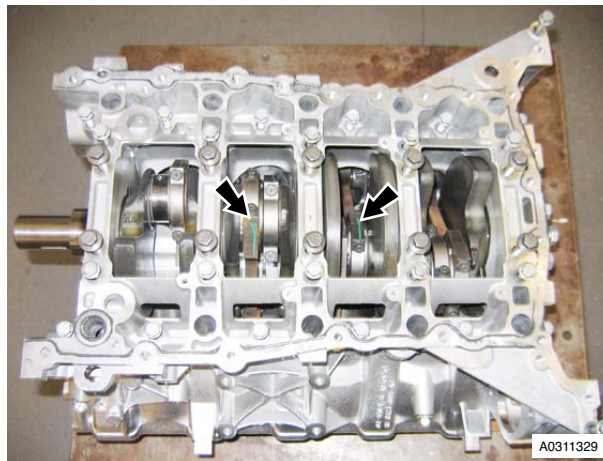

Figure 3
20. Noting their fitted positions, remove bolts (x34) securing engine bedplate to cylinder block (see Figure 3).